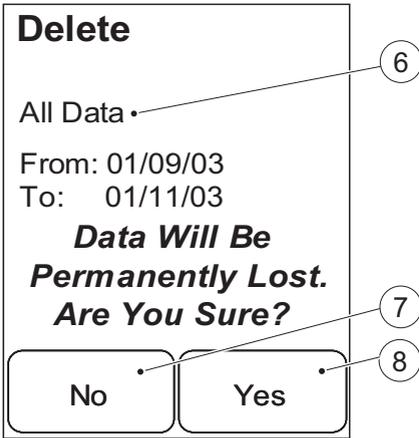

FIGURE 9-22
The From date (2) and To date (3) displayed represent the earliest and latest stored records of the selected type. It is possible to alter the To date but not the From date. If no change is required, press Confirm (5). FIGURE 9-22 will be displayed.
b) If required, enter a new To date (3) via the Digit buttons (4). When finished press Confirm (5). FIGURE 9-22 will be displayed.